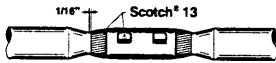

FIGURE 1
2. Prepare cable according to standard practice. (Figures 1, 2 and 3 center column).